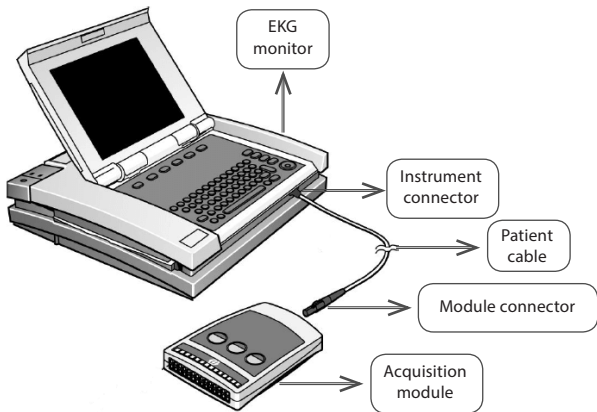

Figure 1
- Connect the other end of the patient cable to the acquisition module (see the figure 1).